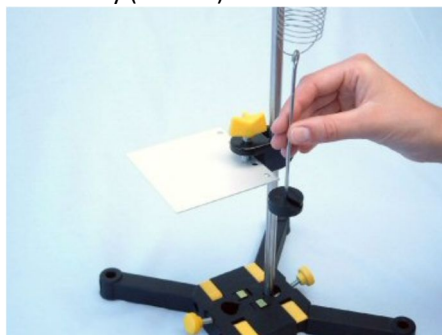

Fig. 13
- Now hang the weight holder ($m = 10$ g) on the spring and let it "fall". Observe the process (Fig. 13)!